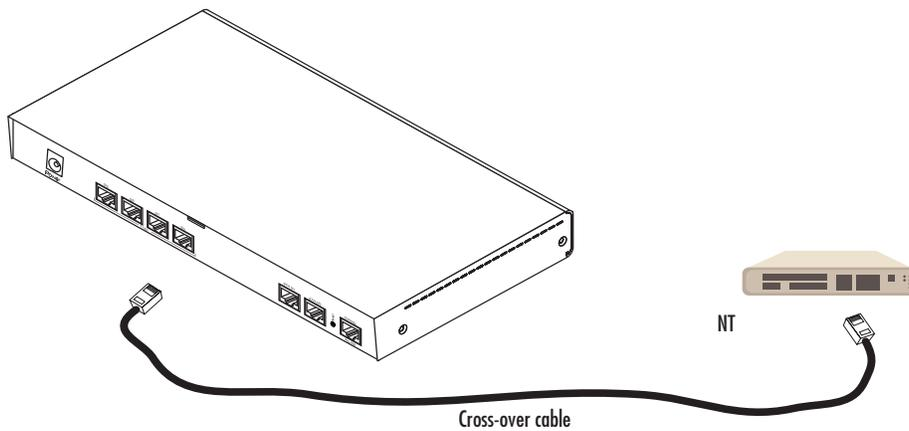

Figure 13. Connecting an E1 PRI port to an NT1
The E1 PRI is usually connected to a PBX or switch—local exchange (LE). Type and pin outs of these devices vary depending on the manufacturer. In most cases, a straight-through RJ-45 to RJ-45 can be used to connect the PRI with a PBX. A cross-over cable is required to connect to an NT device, as illustrated in figure 13 on page 60.